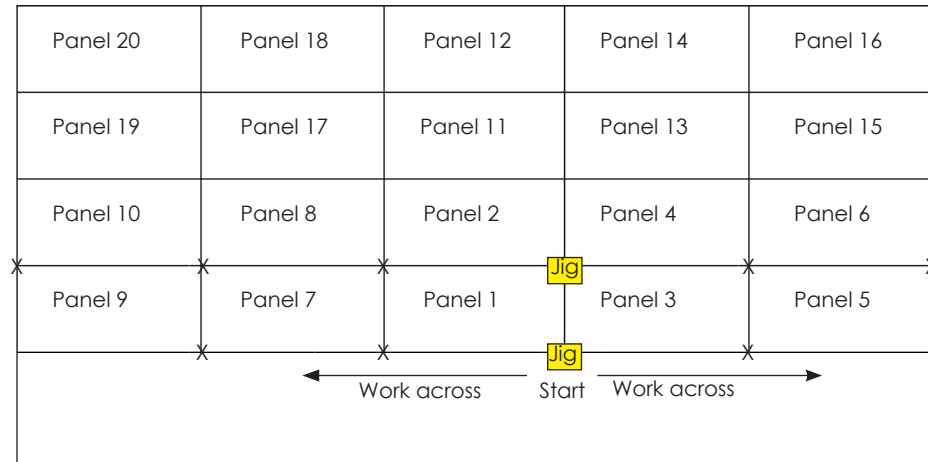
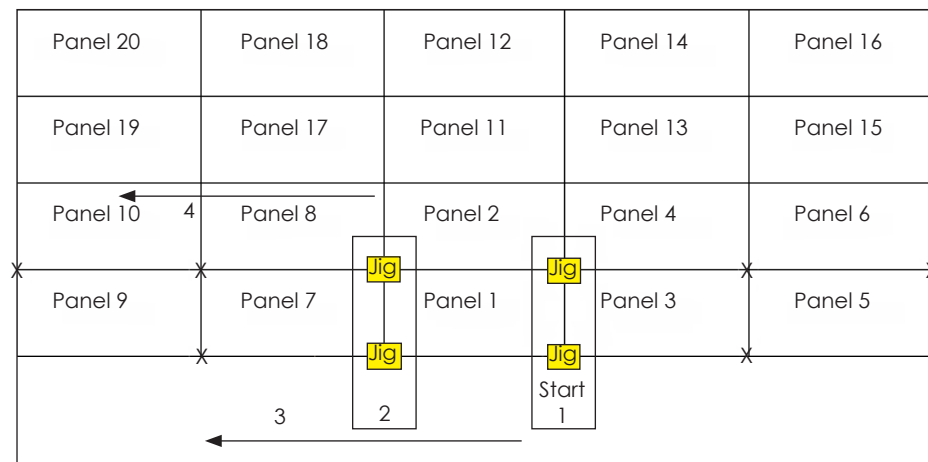

Figure 31: Install Flattening Jigs
Figure 32: Adjust Z-Axis Panels
2. Install the first two flattening jigs in the START locations in **Figure 31**.
4. Work horizontally across the display in one direction, adjusting the Z-axis panels at the X locations in **Figure 31**. Bring the center-most jig in front of the other two jigs while working across the display. Refer to **Figure 32**.
5. Go back to the center and work across the display in the other direction, adjusting the Z-axis panels in the X locations in **Figure 31**. Bring the center-most jig in front of the other two jigs while working across the display. Refer to **Figure 32**.